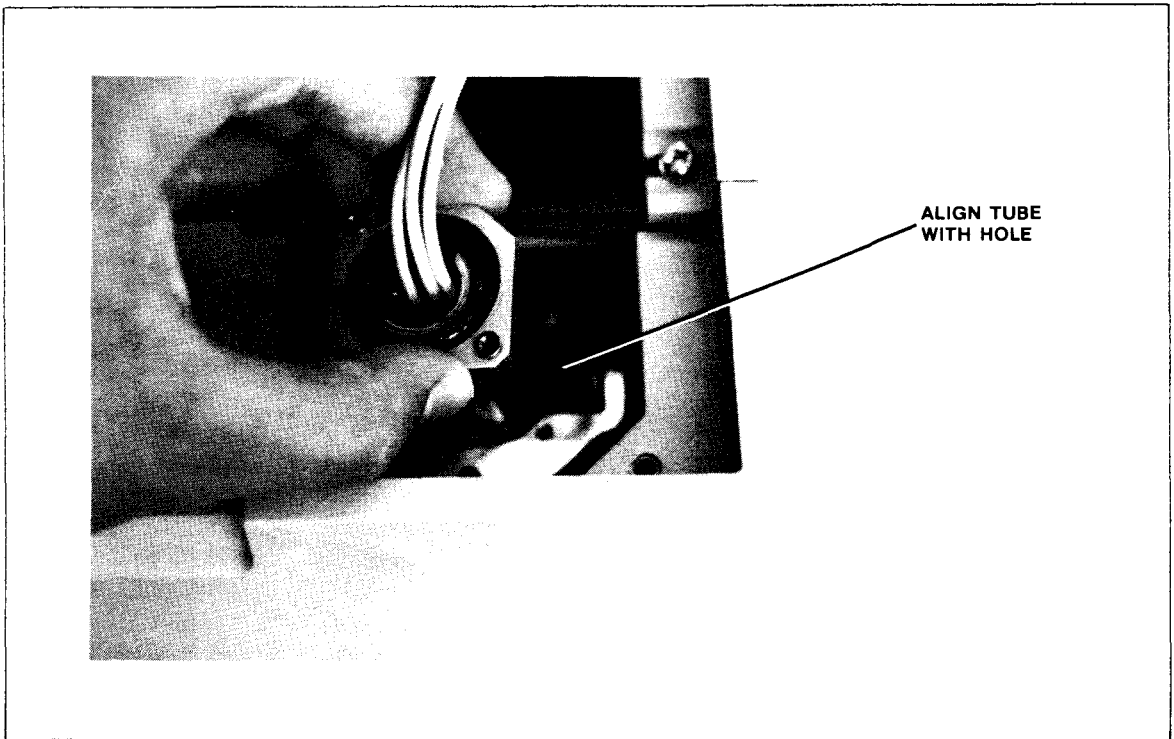

Figure 9-3. Removing Lamp
8. Turn the lamp 180 degrees such that the tube protruding from the lamp is aligned with the hole in the lamp compartment (see Figure 9-3).